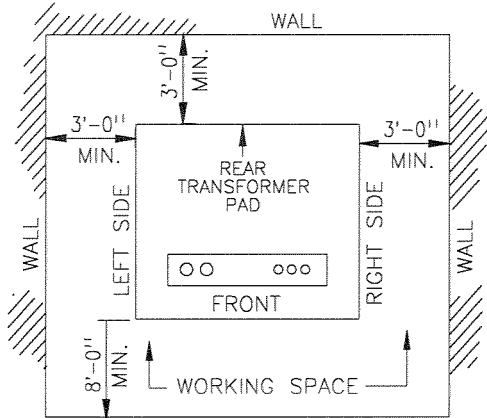

FIGURE NO. 2
2. If a pad-mounted transformer can not be located away from vehicular traffic, the customer shall provide suitable barriers for the protection of the transformer. Roseville Electric Department shall determine the type, size and number of any such barrier(s) required. A removable type post is shown in Figure No. 2.